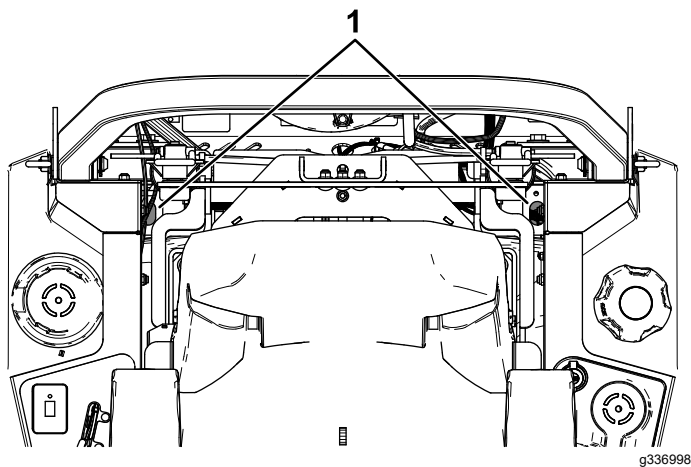

Figure 80
- **For ZT 4400 Hydros**, use an extension and 7/16-inch socket, access the vent plug from the top of the machine through the holes near the roll-bar mounts (Figure 80).